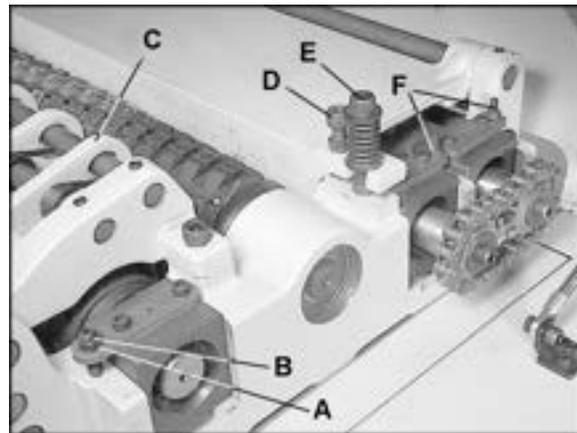

Figure 11
5. If it is not $1/16$ ", correct by loosening the hex nut (A, Figure 11) and turning the adjustment screw (B, Figure 11) with a hex wrench.
6. Move the gauge to the extreme opposite end of the infeed roller and check. Make necessary adjustments. Tighten hex nuts (A, Figure 11) when finished.
The chipbreaker (C, Figure 11) is a sectionalized type made of spring-loaded sections mounted on a bar, which complements the sectional infeed roller. The functions of the chipbreaker are to break chips into small pieces, help avoid splintering of the wood, help avoid board bounce on thinner boards, to direct the flow of chips out of the machine, and to permit multiple board surfacing.
Use a gauge to set the full length of the pressure bar to be .000-.001” (.02mm) below the arc of the cutterhead. Figure 11 shows the height adjustment screw (D) and the spring tension adjustment screw (E) for the pressure bar. This initial setup is a starting point and final adjustment may have to be made during a test cut.
Adjust as necessary using the screws (F, Figure 11). When finished adjusting, tighten the hex nuts on the screws (F, Figure 11).
If clip marks occur 6" (152mm) in from each end of the board, the pressure bar is too high. See Figure 16. Turn both right and left hand adjusting screws (see Figure 11) the same amount, 1/4 turn clockwise or less, and take another 1/16" (1.59mm) deep cut. Re-examine the board.